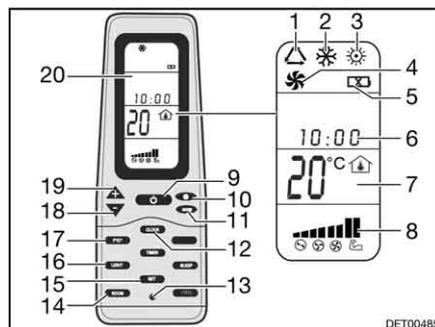

Fig. 144 Remote control
- Press the ON/OFF button (Fig. 144,9).
- Press the "Mode" button (Fig. 144,11) as often as required until the required mode (Fig. 144,1, 2, 3 or 4) is indicated on the display (Fig. 144,20).
- Use the "+" (Fig. 144,19) and "-" (Fig. 144,18) buttons to set the desired temperature.
- Use the fan speed button (Fig. 144,10) to select the desired fan level.